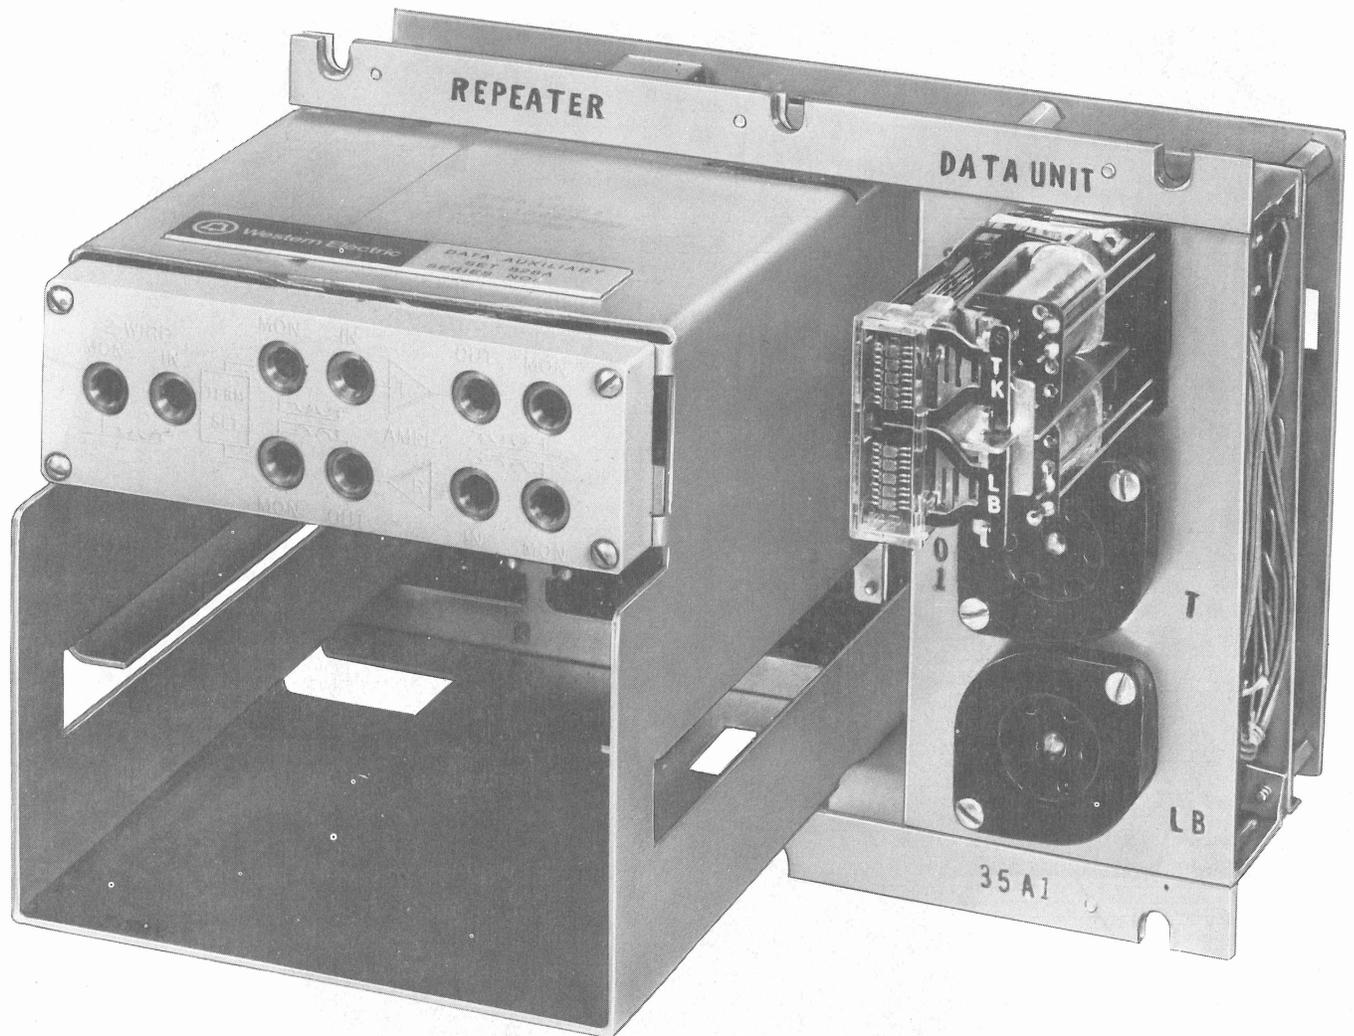

Fig. 1—Front View of DAS 828A-L1 (Series 1)
2.01 The basic DAS is the 828A-L1, shown in Fig. 1. This unit consists of a 24V4B repeater mounting unit, relays, and pad sockets providing a single assembly that is prewired and tested for 4W PL data service.